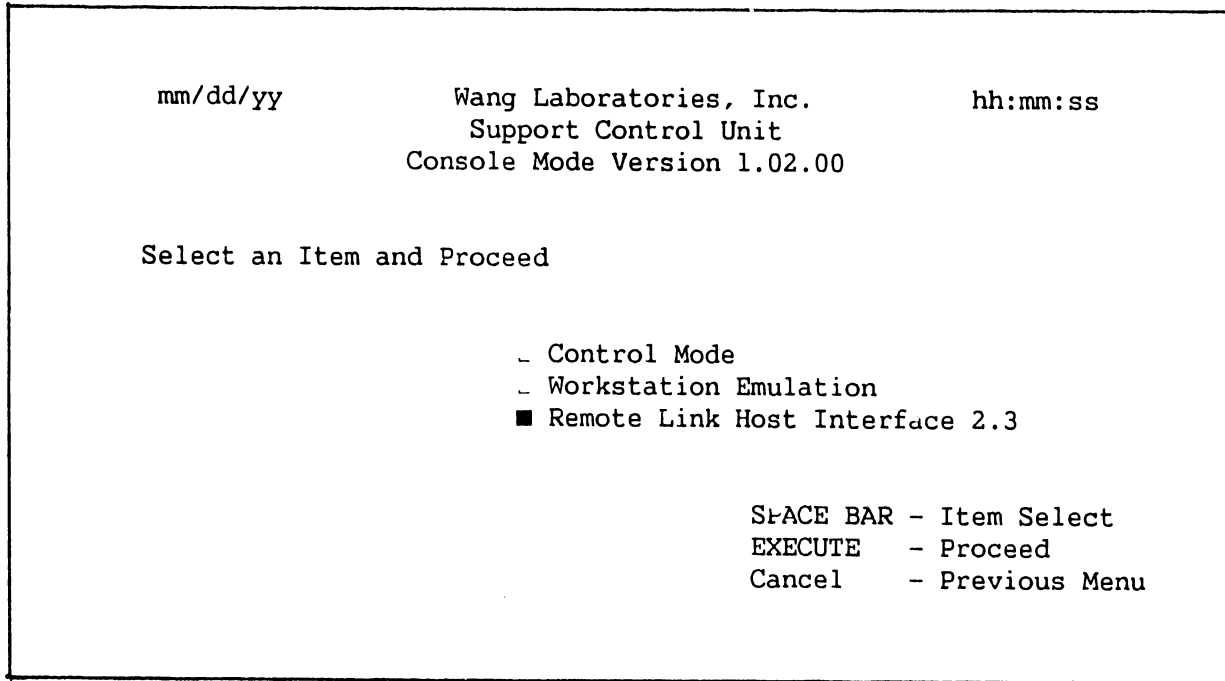
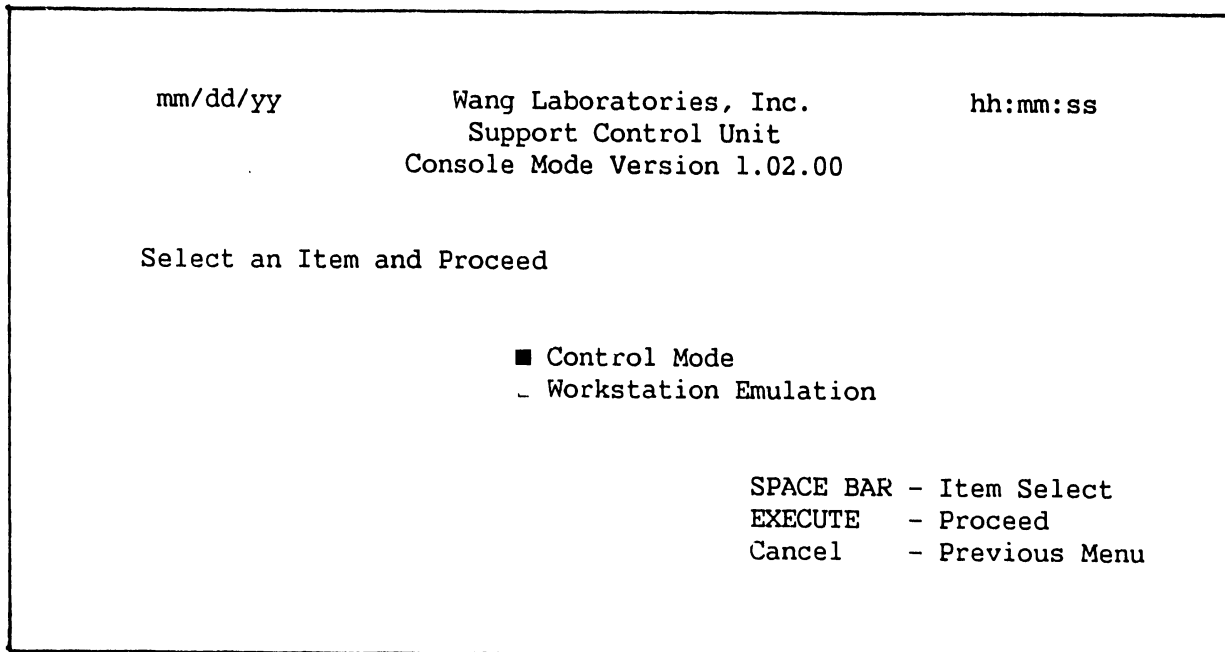

Figure 4-33. SCU Console Mode Menu With Remote Link
Figure 4-34. SCU Console Mode Menu Without Remote Link
6. Check the menu for the Remote Link choice. (Figure 4-33.) If Remote Link has not been installed, there will be only two menu choices. (Figure 4-34). If Remote Link has not been installed, go to step 7. If Remote Link has been installed, go to step 11.
10. Copy the Remote Link software to the SCU disk from the Remote Link diskette, SCU diskette number six. Upon completion of this step the SCU Console Menu will have Remote Link for a third menu choice. (Figure 4-33.)
13. A TAC engineer will call back using the modem phone number. The system should be IPLed and running. Workstation 0 must be logged on, or TAC must be provided with a valid logon. Workstation emulation on workstation 0 must be suspended or terminated and Remote Link selected. (Figure 4-33.) The modem is now put into data position and the link verification started.